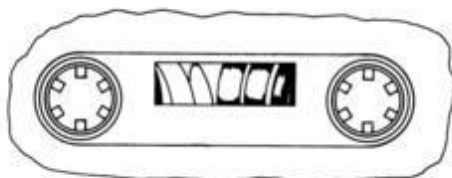

Fig. 1
1. Check that there are no loose layers of tape visible through the cassette centre window (see fig. 1). "Take-up" these loose layers using a pencil or ballpoint pen before inserting the cassette into the machine (see fig. 2).